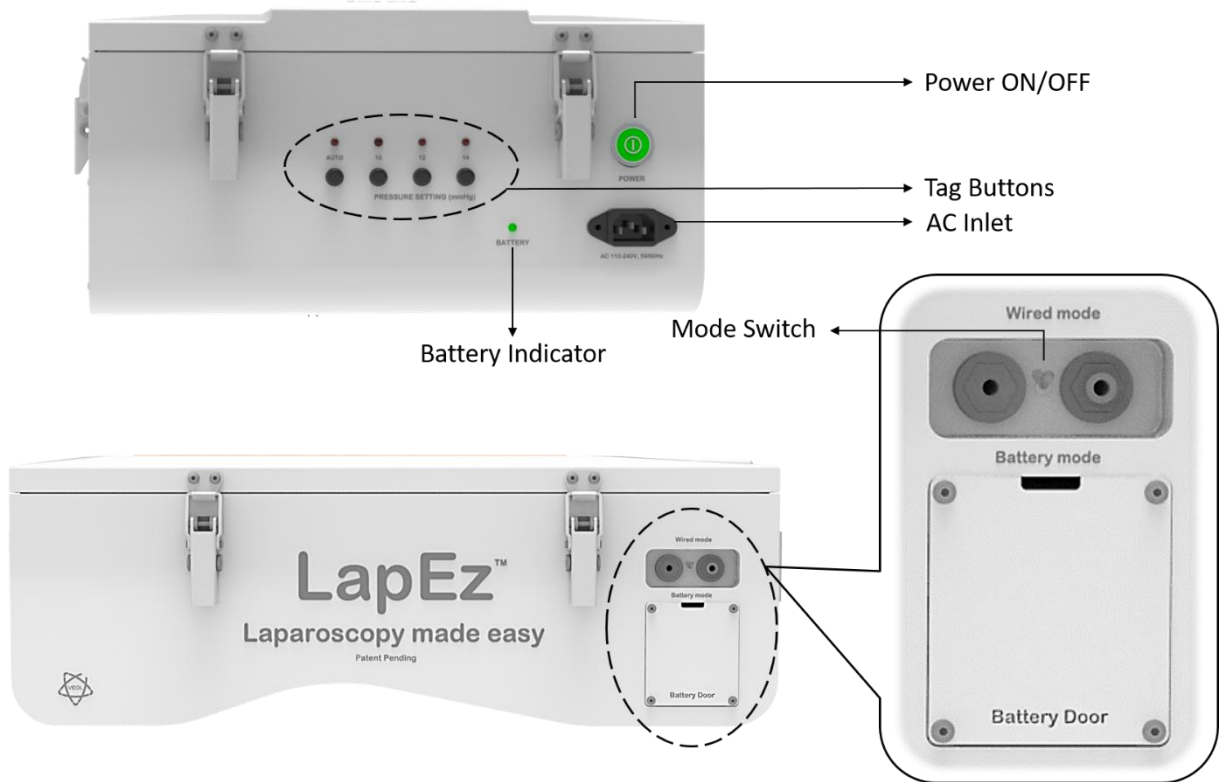

Fig 2. LapEz™ Description
Battery indicator displays remaining battery life when power cord is unplugged (*Refer Fig 2*):
The Mode switch is used to select mode of operation i.e. Wired Mode or Battery Mode. (*Refer Fig 2*)
4.1 Remove the LapEz™ box Battery Door (Refer Fig 2) by using the Allen key provided with LapEz™ and insert the 6 nos of Lithium-Ion batteries into the battery casing inside the box.
4.2 Connect the power cord to the AC inlet. Refer Fig 2.
5.4 If the operating mode is selected as Wired Mode, then switch ON the Mains first then press the Power ON/OFF button. Refer Fig 2.
5.6 To insufflate the LapEz Abdominal Wall (LAW), select the pressure setting from 12mmHg, 14mmHg, or 16mmHg, or Auto mode. Refer Fig 2.